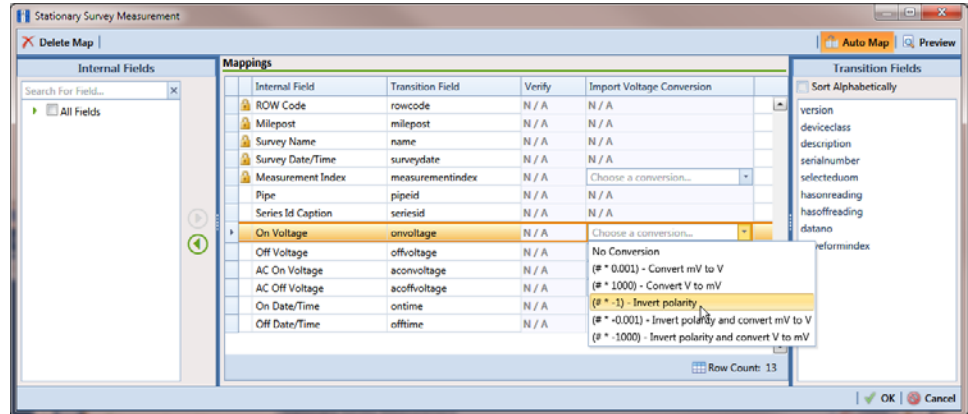

Figure 10-22. Stationary Survey Measurement
- b** Select a survey measurement field in the grid. Then click the down arrow in the **Import Voltage Conversion** field and select one of the following filter options in the selection list (Figure 10-22, page 511).